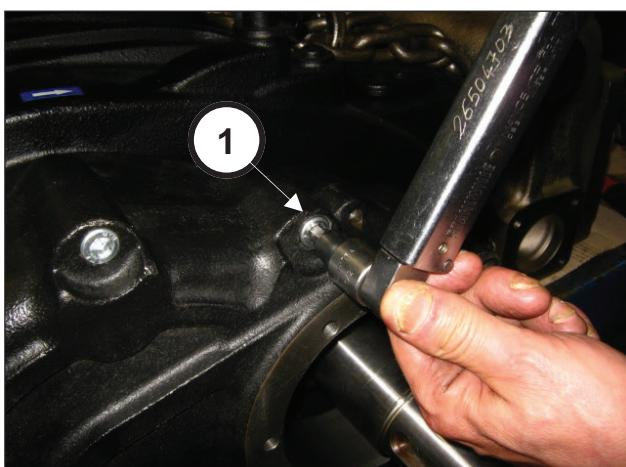

Fig. 73
Assemble the reduction gear cover (pos. ①, Fig. 72) and fasten it with 10 M10x50 screws (pos. ①, Fig. 73). Calibrate the screws with a torque wrench as indicated in chapter 3.